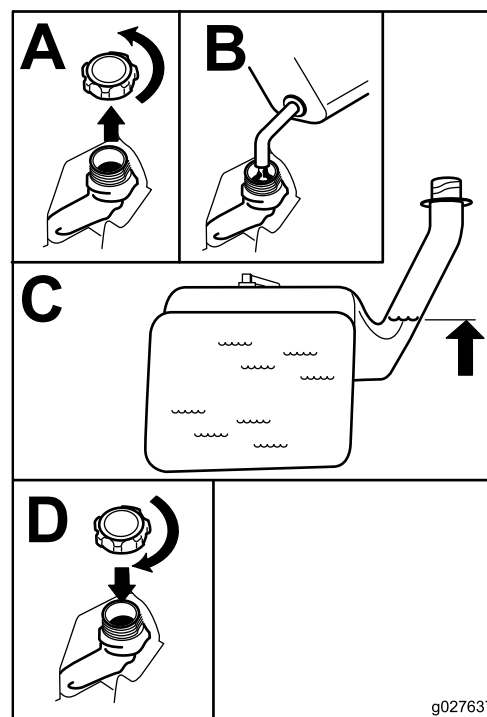

Figure 7
2. **Slowly** add regular, unleaded gasoline until the fuel reaches the base of the filler neck (Figure 7).